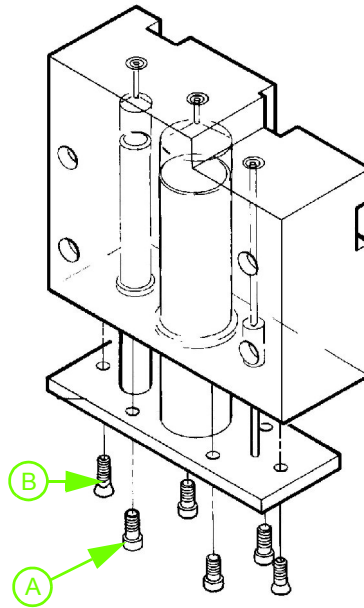

Fig.14: Bottom plate
- ◆ Unscrew the 4 CHC screws (A) and the 2 FHC screws (B) in order to remove the syringe bottom plate (See "Fig.14: Bottom plate, page 10").